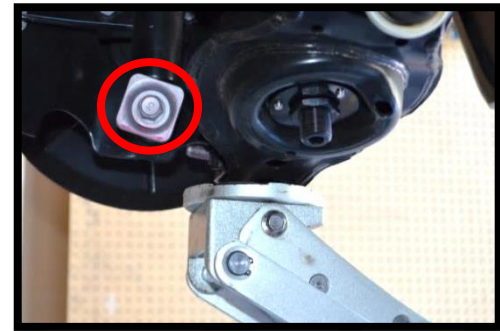

Figure 3a
- b) Place a jack under the rear control arm to keep the spring retained in the car, and remove the 17mm bolt that holds the shock to the spindle (see Figure 3a).
- b) Place a jack under the rear control arm and remove the 17mm bolt that holds the shock to the spindle (see Figure 3a).